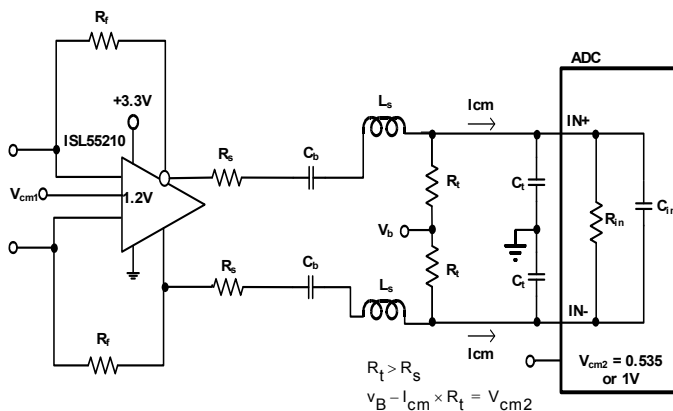

FIGURE 34. AC COUPLED, BROADBAND RLC INTERSTAGE FILTER DESIGN
2. AC coupled, higher frequency range interstage filter design. This design replaces the R_t resistors in Figure 34 with large valued inductors and implements the filter just using shunt resistors at the end of the RLC filter (here, that is just the ADC internal differential R_{in}). In this case, the ADC V_{CM} can be tied to the centerpoint of the bias path inductors (very much like a Bias-T) to provide the common mode voltage and current to